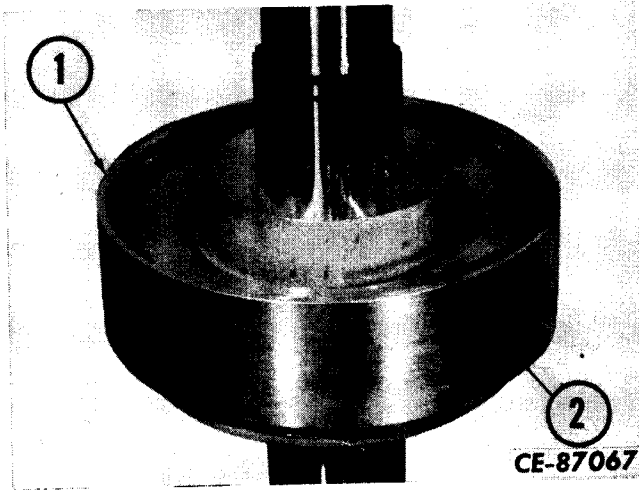

Figure 4-31
Install special snap ring groove filler (2, Fig. 4-31) (refer to Section VI, "SPECIAL TOOLS") with bevel edge down in piston housing (1) snap ring groove.